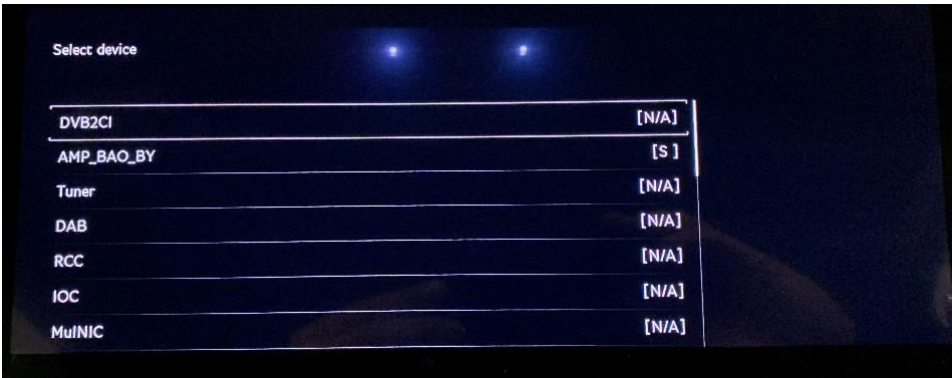

Figure 7
6. The following screen will then appear (Figure 7), scroll down to the bottom of the screen and select Start update